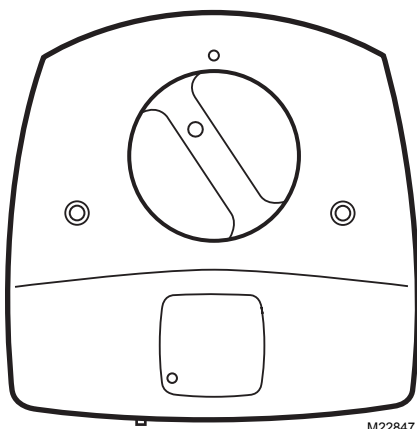
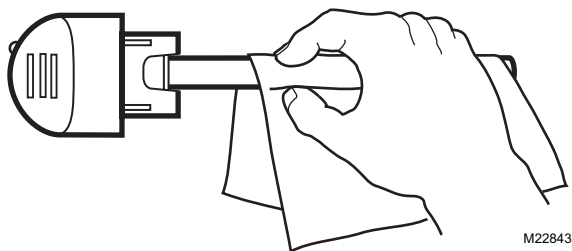

Fig. 4. Insert lamp handle into base unit.
Fig. 5. Use cloth to wipe fingerprints from glass.
11. Insert the lamp handle into the base unit with the lamp light indicator at the eleven o'clock position (left of the raised button on the unit cover). See Fig. 4. If you touch the lamp glass with your hands, use a cloth to wipe fingerprints from the glass. See Fig. 5.